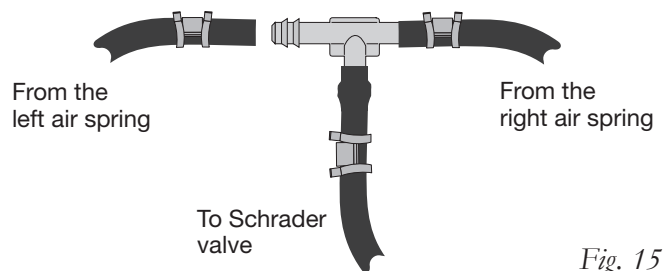

Fig. 15
3. Use this procedure (Fig. 15) for all air line connections: